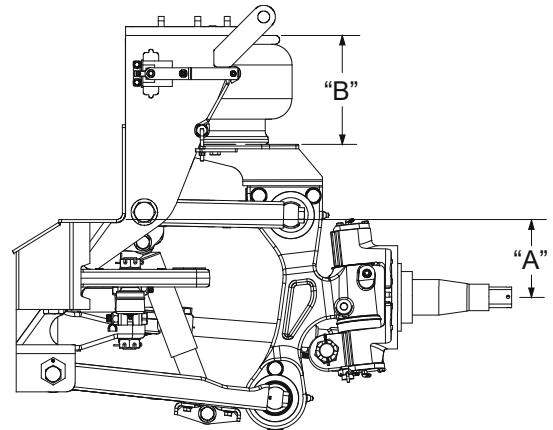

Figure 8 - Ride Height Measurement
11. Verify the ride height by measuring from wheel center to the bottom of the frame ("A") or air spring height ("B"). If the dimensions are not within  $\pm .125$ " of (Figure 8), readjust.
12. The actuation arm of the height control valve should be horizontal at ride height (Figure 8). See section for adjusting to correct ride height.